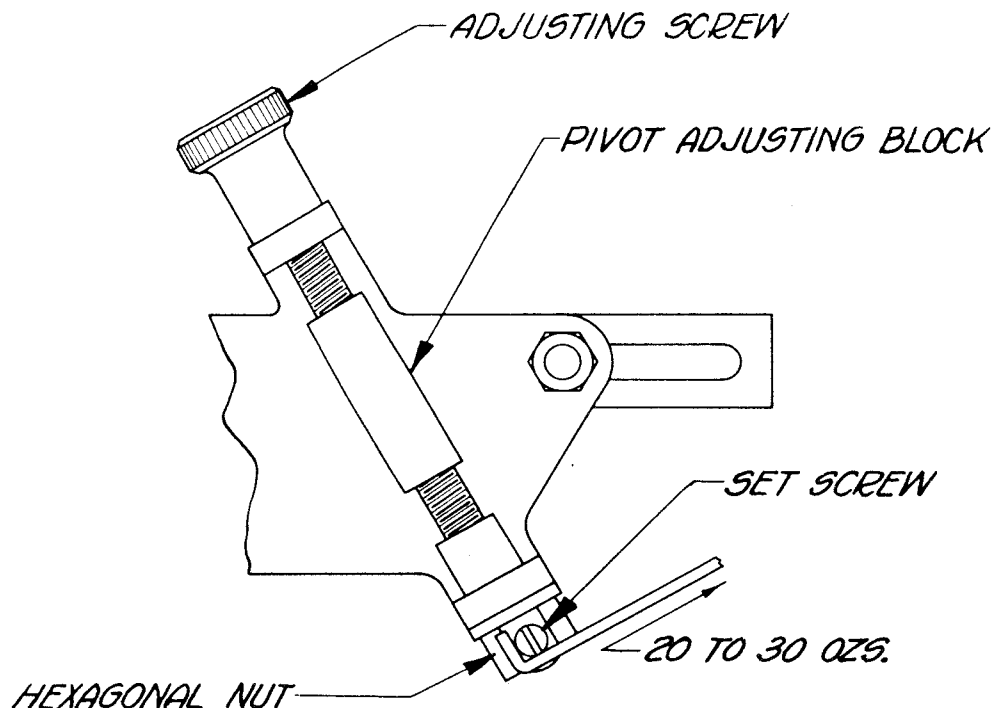

Figure 29
2.66 Pivot-adjusting-block Screws Friction: With the pivot-adjusting blocks near the centers of their screws, hook a scale over the hexagonal nut setscrew and pull at right angles to the setscrew. It should require a pull of minimum 20 ounces, maximum 30 ounces, to start the adjusting screw turning. See Figure 29.